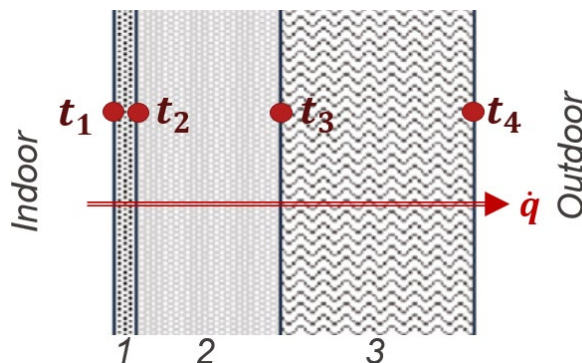

Figure 1: Composition of walls and labeling of temperatures at interfaces
4. Assuming a 1D steady-state conduction problem shown in Fig. 1, determine the heat losses per unit area through wall structures if the indoor surface temperature is $t_1 = 20^\circ\text{C}$, and outdoor surface temperature is $t_4 = 0^\circ\text{C}$.